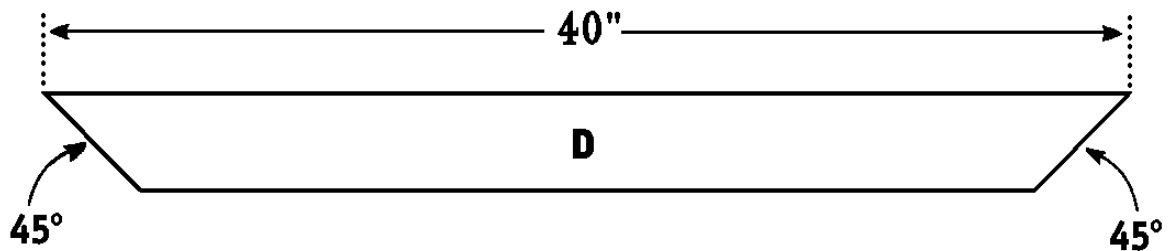
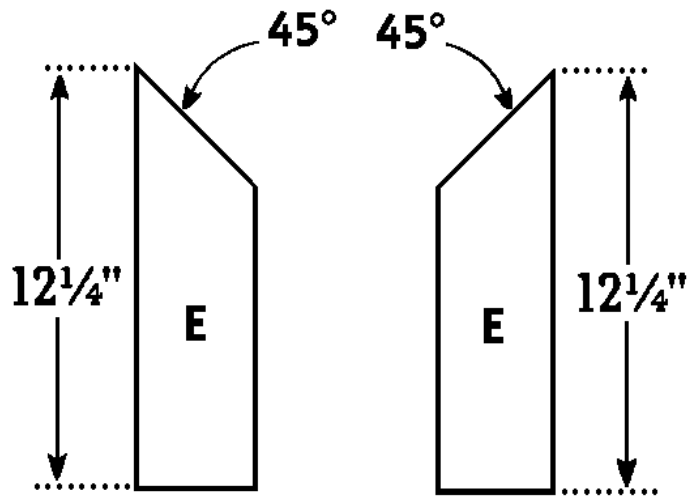

Figure 3
Figure 4
- Cut one Front Trim (D) from 1 x 4 pine measuring 40 inches.
- Miter each end of the Front Trim (D) at opposing 45-degree angles, as shown in *Figure 3*.
- Cut two Side Trims (E) from 1 x 4 pine, each measuring 12-1/4 inches.
- Miter one end of each of the Side Trims (E) at a 45-degree angle, as shown in *Figure 4*.